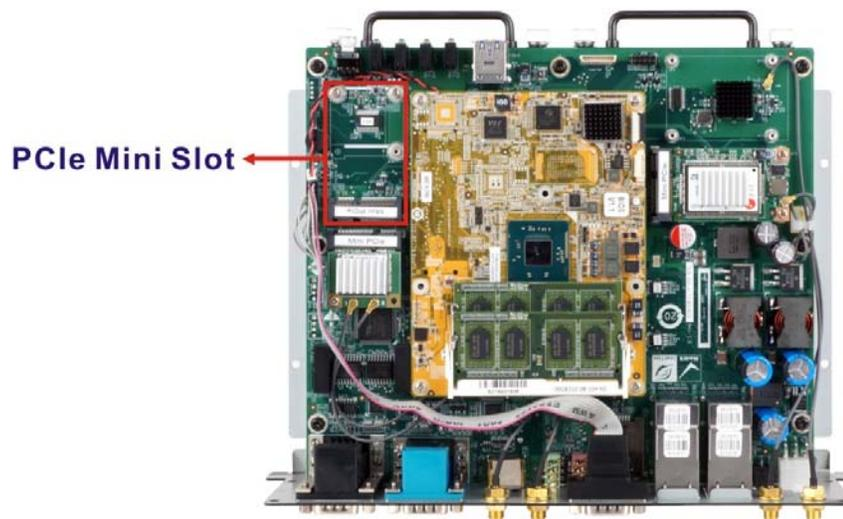

Figure 3-6: PCIe Mini Slot Location
Step 2: Locate the PCIe Mini slot (MINI-PCIE3) for mSATA module as shown in **Figure 3-6**.